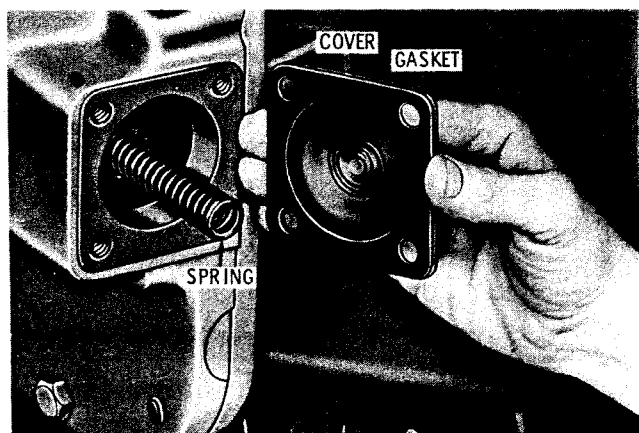

Fig. 5-2. Removing lubrication regulator valve cover
(2) Remove four bolts and lock washers which retain the lubrication regulator valve cover. Remove the cover and gasket (fig. 5-2).